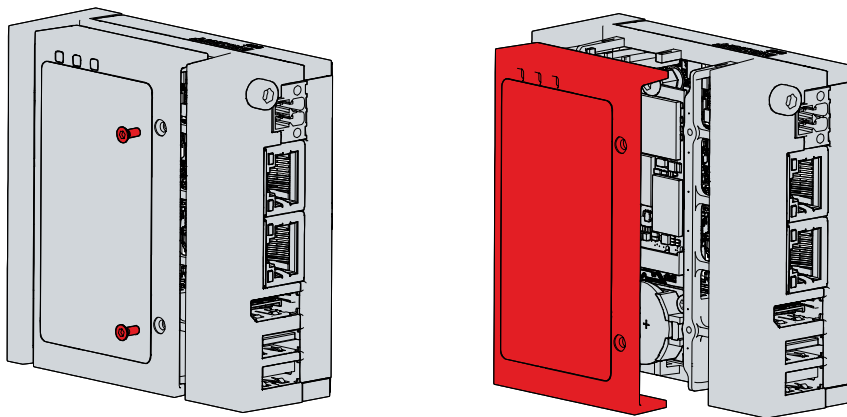

Fig. 24: Access to battery and storage media
You now have access to the battery (1) and storage medium (2) (see fig. 24).